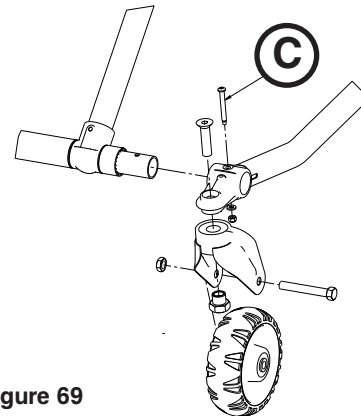
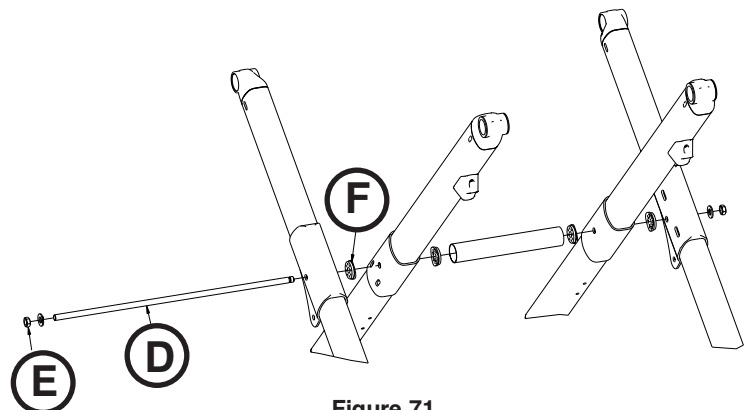

Figure 69
Figure 71
4. Using a 3/8" and 7/16" combination wrench, remove all four caster mount bolts (C) that secure the outer lift tube assemblies to the foot base tubes (Figure 69).
5. Using two 9/16" combination wrenches and a dead blow hammer, remove the base connecting rod (D) and centerlock hex jam nut (E).
Note: Save the bearings (F) that fall out. (Figure 71).